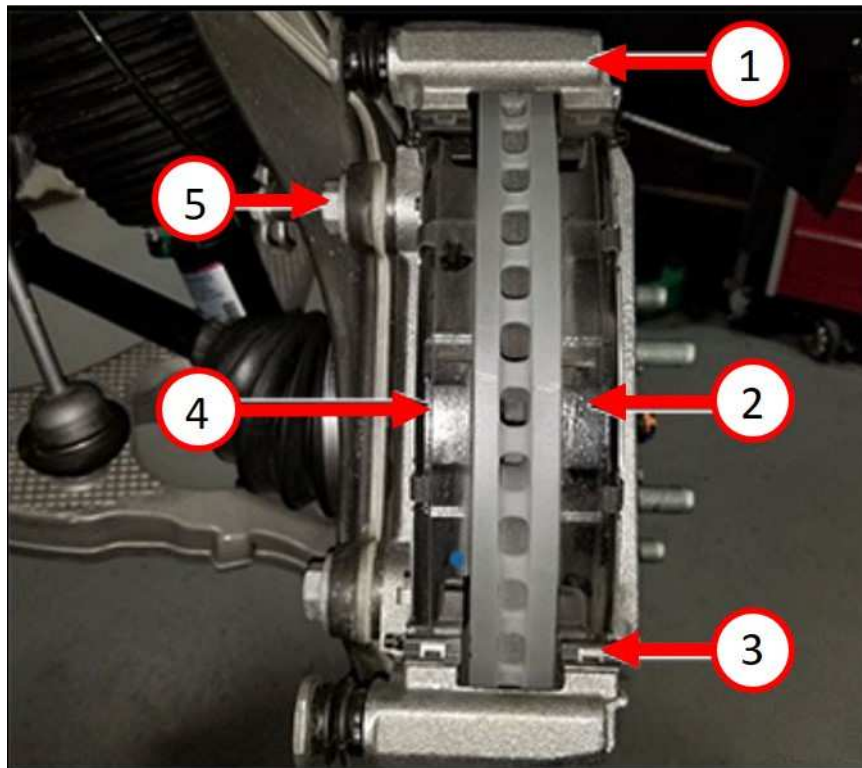
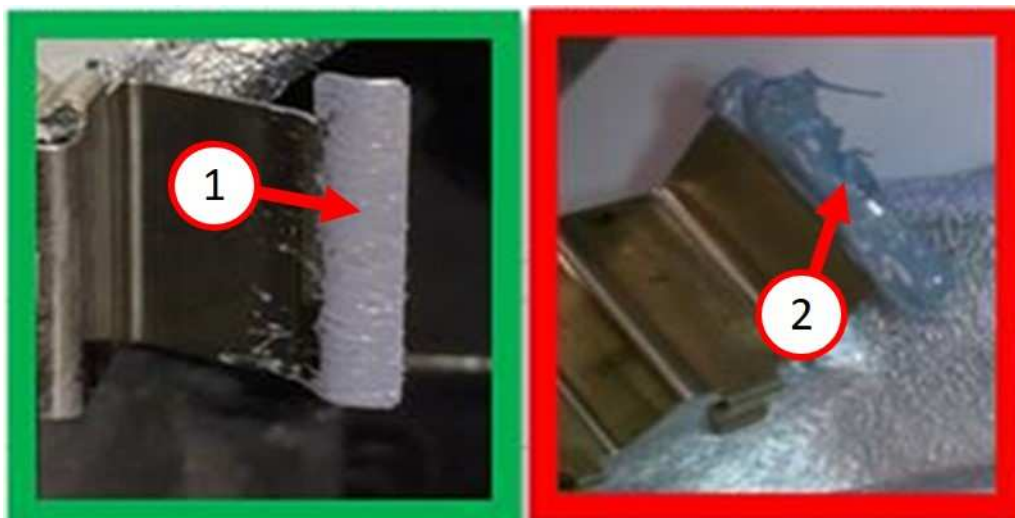

Fig. 1
Fig. 2
4. Remove the inboard brake pad (Fig. 1) .
5. Remove the outboard brake pad (Fig. 1) .
6. Apply grease to the four anti-rattle clips (Fig. 1) as shown in (Fig. 2) .